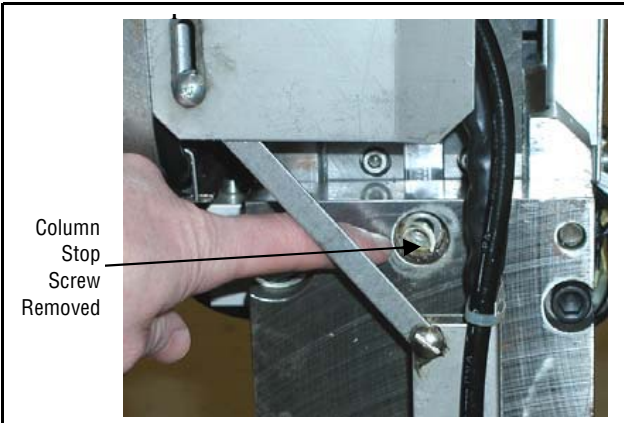

Figure 7-8. Remove Column Stop Screw
5. Remove column stop screw (see Figure 7-8).